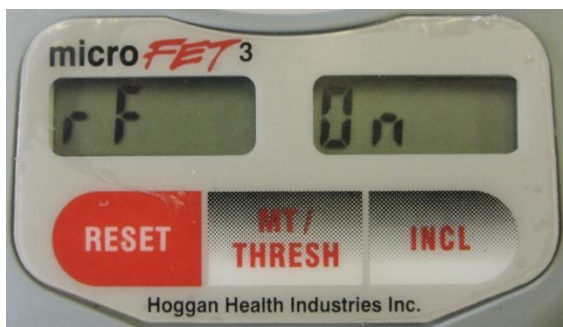

Figure 9. Wireless Mode Setting
- To turn the wireless mode on, hold down the MT/THRES button for ten (10) seconds.
- The device will enter force unit of measure setting mode after five (5) seconds, continue to hold down the MT/THRES button until the left display screen shows “rF”, this is the wireless power setting menu (see Figure 9).